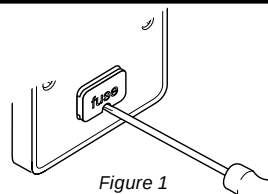
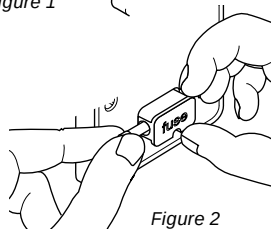

Figure 1
Figure 2
- i) Unscrew the fuse carrier jacking screw to partially eject fuse carrier (see **figure 1**). Pull carrier out and remove fuse (see **figure 2**).